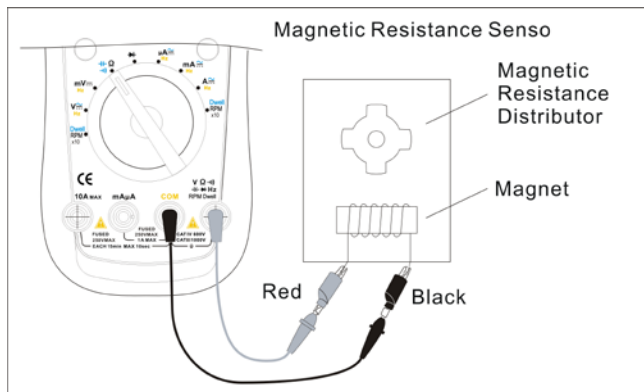

Figure 19)
4. Magnetic Resistance Sensor (see figure 19)